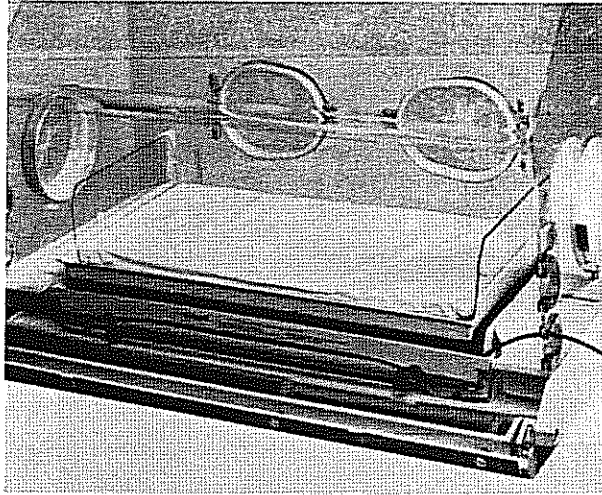

FIGURE 2.5 MATTRESS TRAY AND MATTRESS ON WEIGHING PLATFORM
- D. PLACE THE MATTRESS TRAY AND MATTRESS PROVIDED on the Weighing Platform (Figure 2.5).
- E. INSERT THE CABLE INTO THE HOOD ACCESS GROMMET (Figure 2.5).